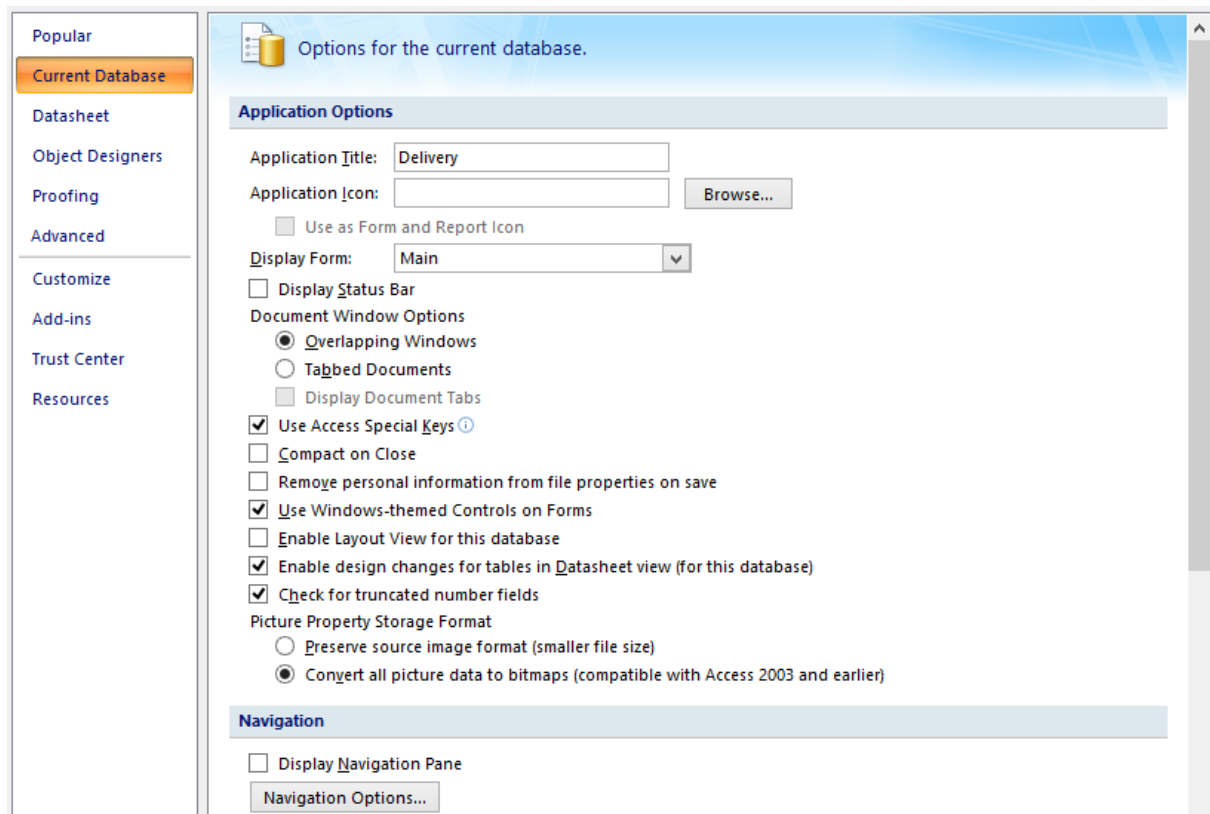

Figure 7.4
- 2) Type “Delivery” into “Application Title” field (figure 7.4);
- 3) Select “Main” form in the “Display Form” combo box (figure 7.4);
- 4) Disable “Display Status Bar”, “Display Navigation Pane”, and “Display Document Tabs”, select “Overlapping Windows” option (figure 7.4);